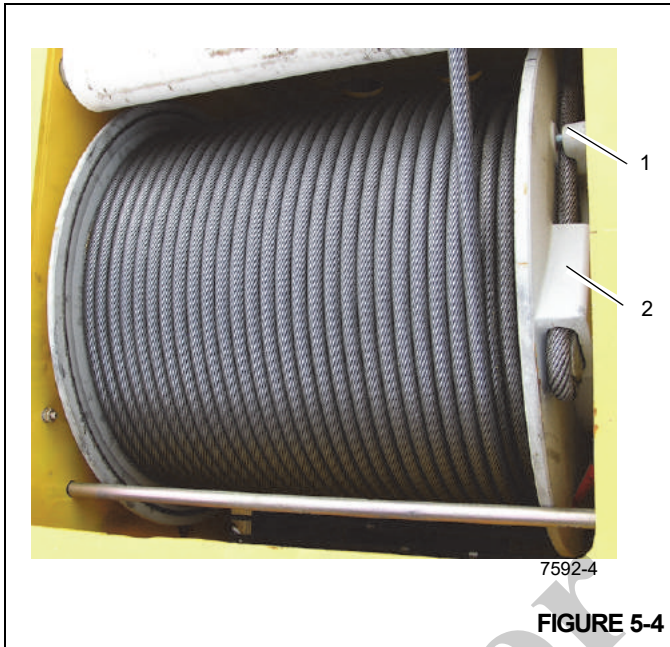

FIGURE 5-4
4. Check that the clamp (1) (Figure 5-4) is properly fastened, is not damaged and is properly seated. Torque the fasteners to recommended torque.
6. The rope wedge must be in the pouch (2) (Figure 5-4).